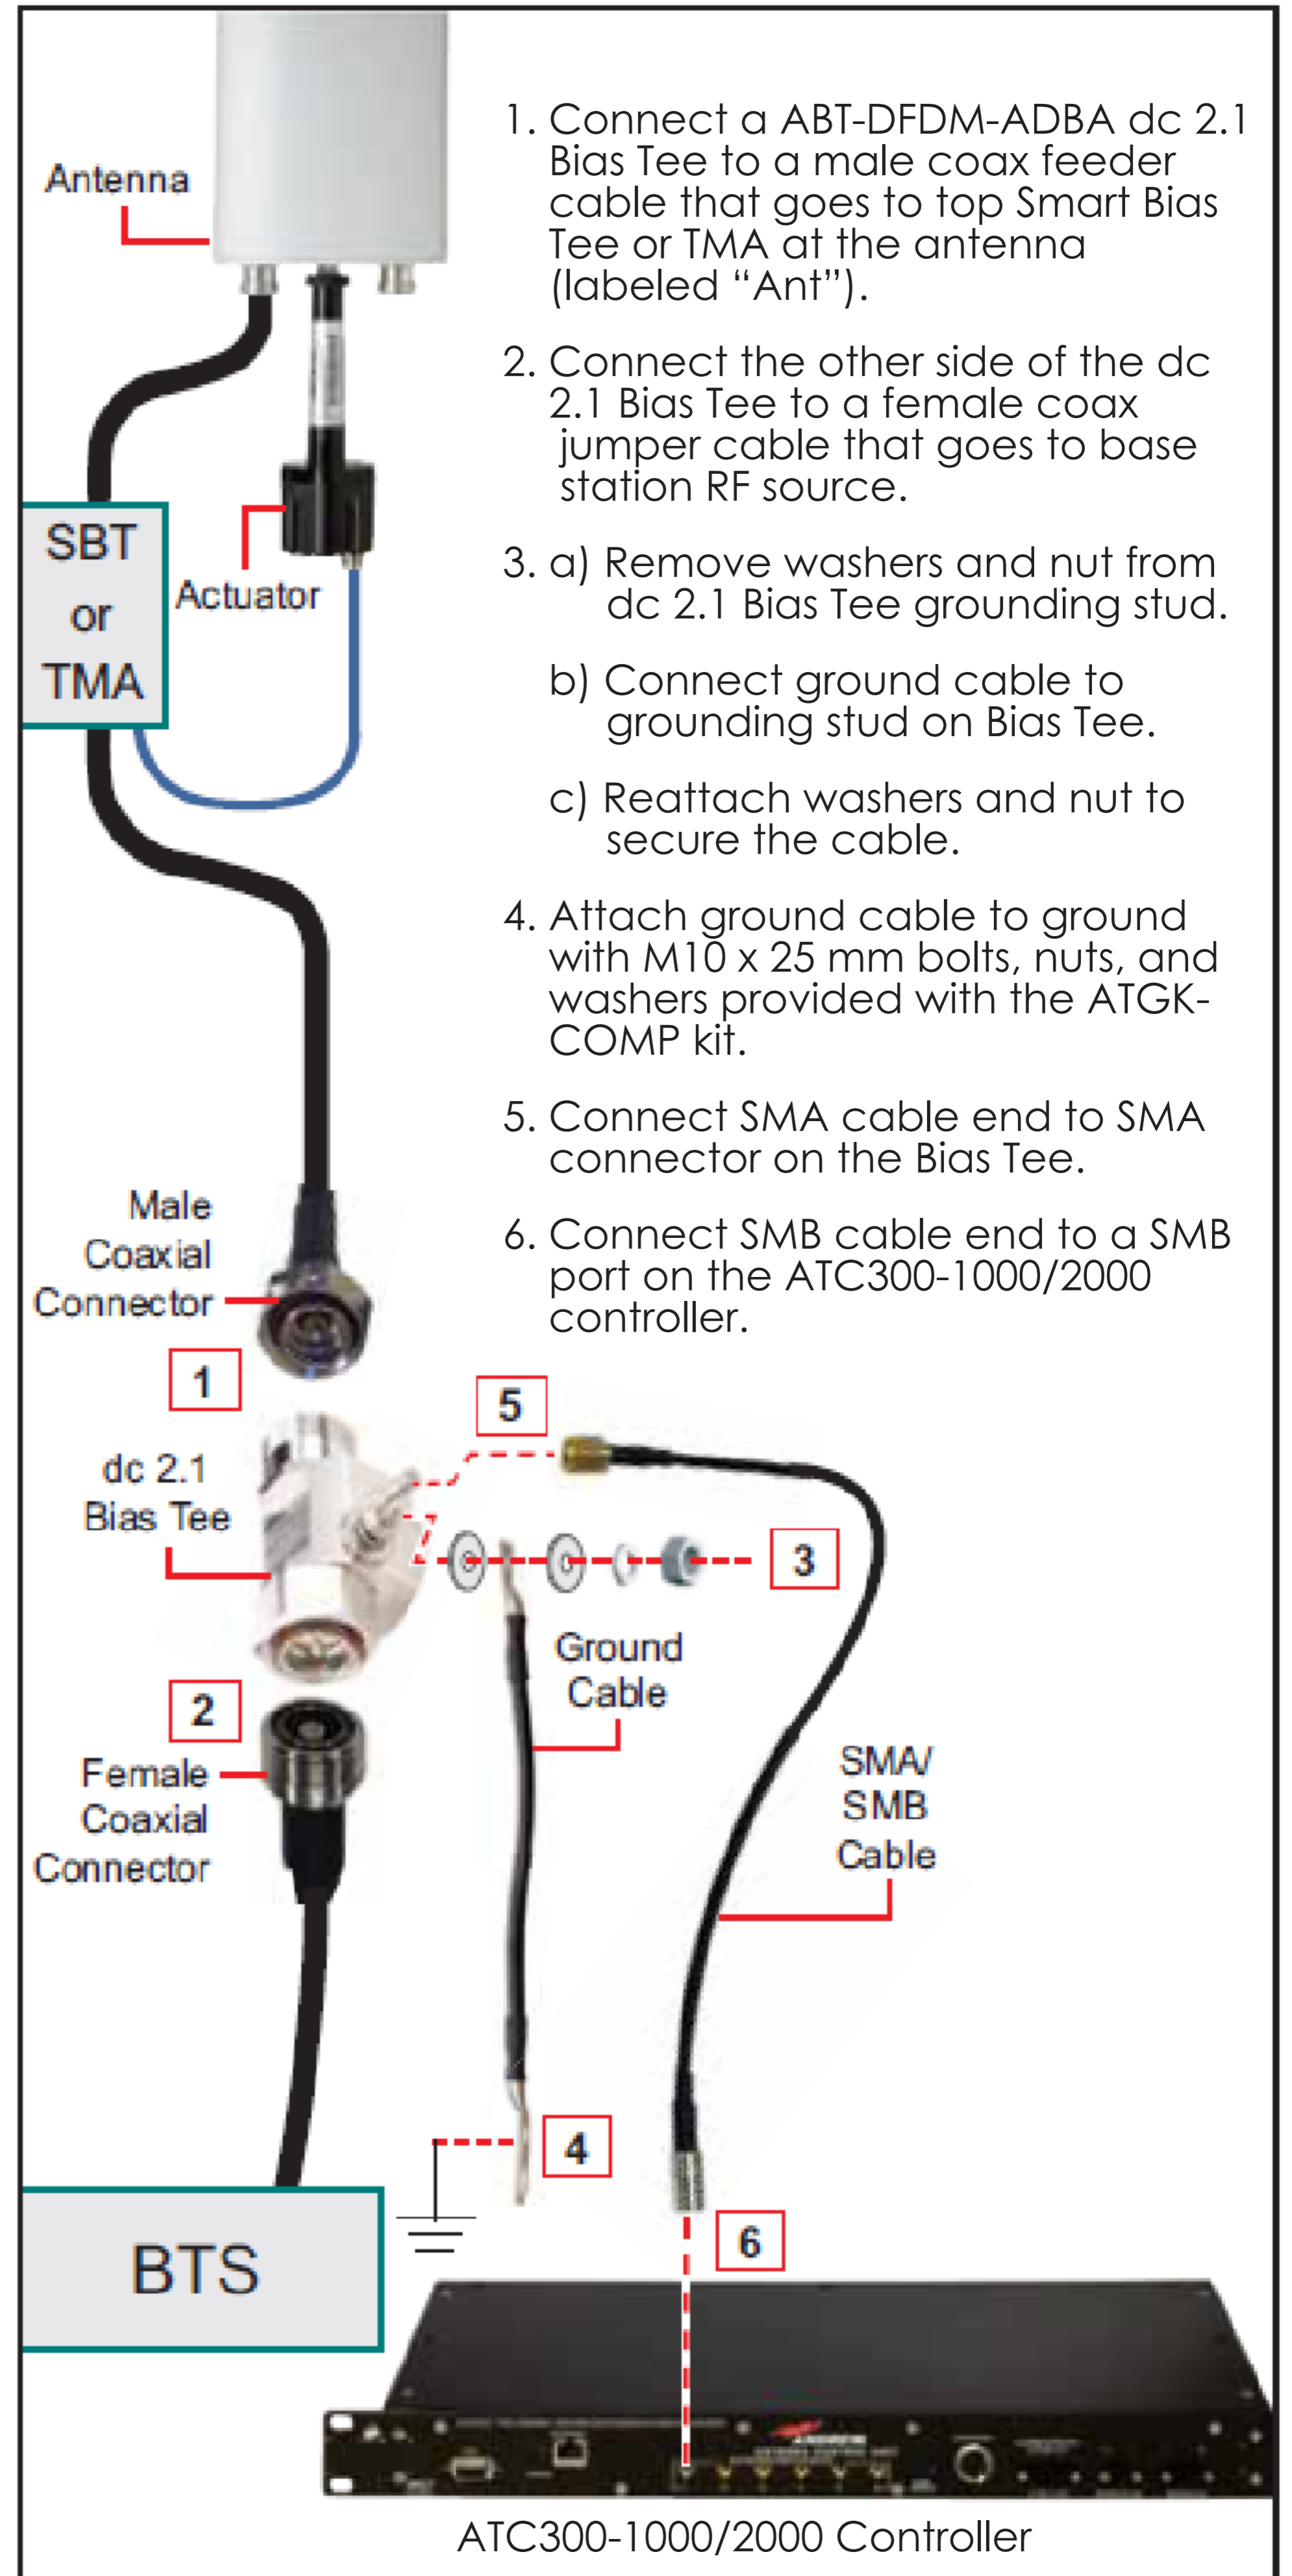

Figure 3. Setting Up The ATBTK-MF In A RET System.
2. Installation of the ATBTK-MF is shown below. Follow steps 1 through 6 in Figure 3.